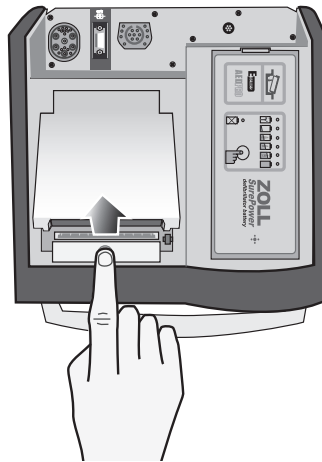

Figure 13-5. Opening the Printer Door
1. Press the release button, and allow the printer door to open (see Figure 13-5); then remove any paper.